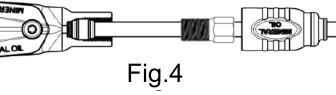

Fig.4
- ⑤ Insert hose into brake lever (Fig.4)